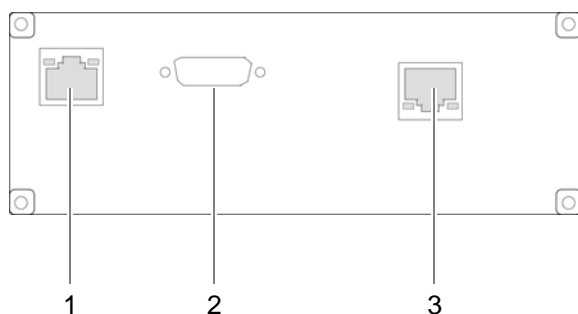

Figure 11.18 Rear view of system controller
Figure 11.18 shows the rear view of the system controller. The following table describes these in detail.
1. Remove the cables (1) and (3) from the rear of the SC200, refer to Figure 11.18 on page 199.